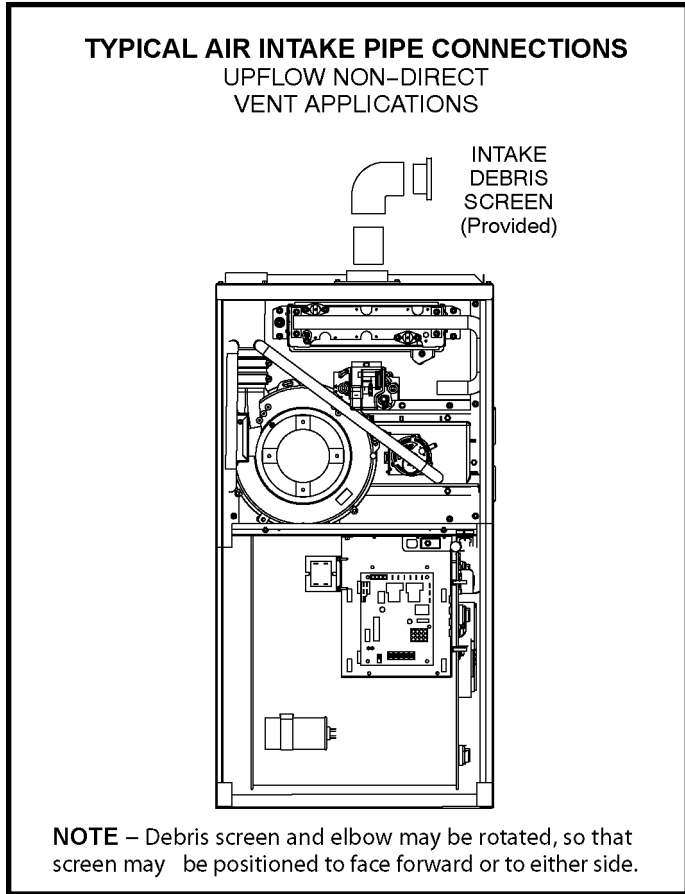

Figure 29
1. Use field-provided materials and the factory-provided air intake screen to route the intake piping as shown in Figure 29 or 30. Maintain a minimum clearance of 3" (76 mm) around the air intake opening. The air intake opening (with the protective screen) should always be directed forward or to either side in the upflow position, and either straight out or downward in the horizontal position.